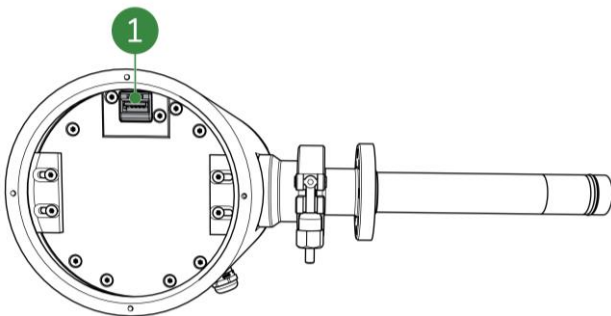

Figure 6-5: SDM ECO USB connector
4. Insert an USB stick into the USB connector (Figure 6-5, pos. 1) with the latest software.